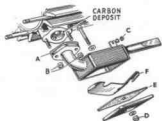

Fig. W5. View into port with pipe off and silencer dismantled
To dismantle, slacken the crankcase nut (C, Fig. W5) retaining the slotted silencer clip and remove the two self-locking stud nuts (B) which retain the exhaust port flange. The complete silencer can then be withdrawn downwards from the engine unit, taking care that the jointing washer (A) is not damaged. Removal of the self-locking nut (D) enables the bottom of the silencer together with its sealing washer (E) to be removed, thus exposing the silencer baffle (F) which can be pulled free from the silencer body.